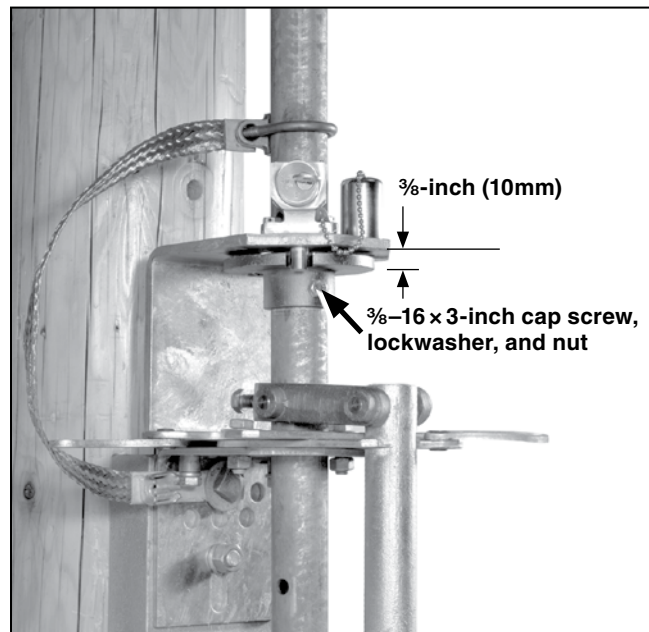

Figure 39. Attaching the locking disc.
STEP 37. Hold the locking disc $\frac{3}{8}$ -inch (10 mm) below the interlock bracket and drill $\frac{7}{16}$ -inch (11-mm) diameter holes through the vertical operating-pipe section, using the holes in the locking disc collar as pilots. Attach the locking disc to the pipe using the $\frac{3}{8}$ -16 \times 3-inch cap screw, lockwasher, and nut furnished. See Figure 39.